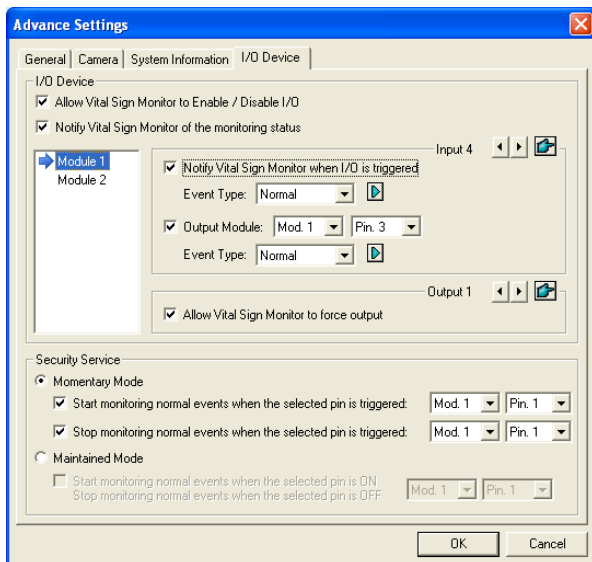

Figure 3-7
- **Force Output:** To enable this tab, highlight one output from the tree list, and click this tab to force the output at the subscriber site. For this, the subscriber must grant the privilege first. See the **Allow Vital Sign Monitor to Force Output** option in Figure 3-7.
- **Enable/Disable I/O:** Allows the VSM to arm or disarm any I/O devices at the subscriber site without interrupting the monitoring. For this, the subscriber must grant the privilege first. See the **Allow Vital Sign Monitor to Enable / Disable I/O** option in Figure 3-7.